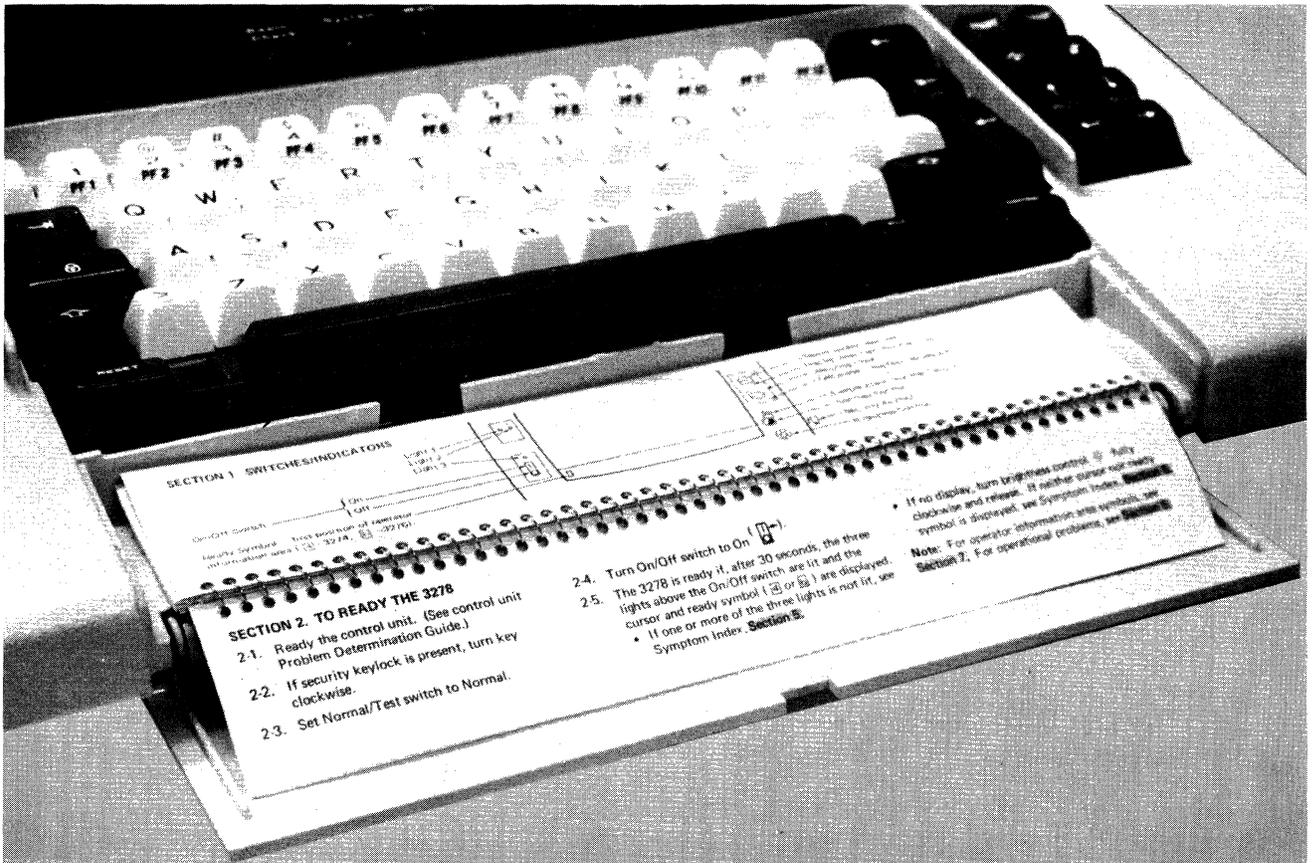

Figure 15. Display Console Problem Determination Guide Access
To get to the *guide*, press the latch on the panel and open the panel cover, as shown in Figure 15. Use the *IBM 4381 Problem Determination Guide* and the Problem Analysis (PA) procedures to determine the appropriate action for display problems.